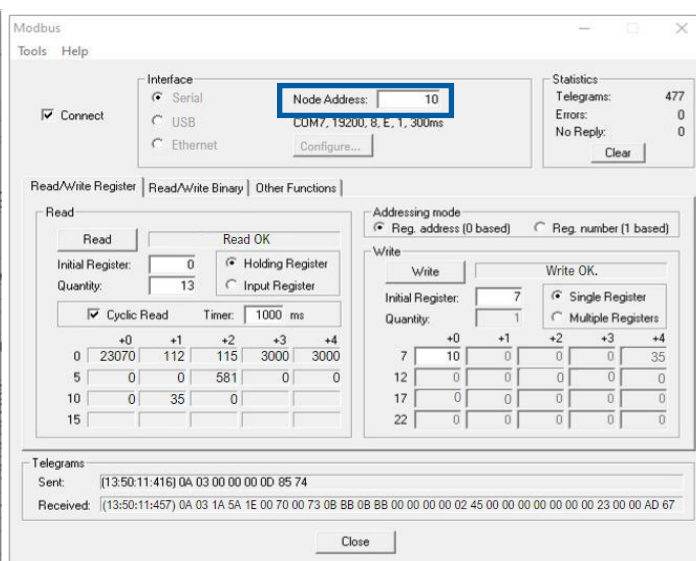

Figure 16 - Check communication
- Step 3: After write-in the new address, the old one is disable. Input the new address in Node, and check communication (Figure 16).